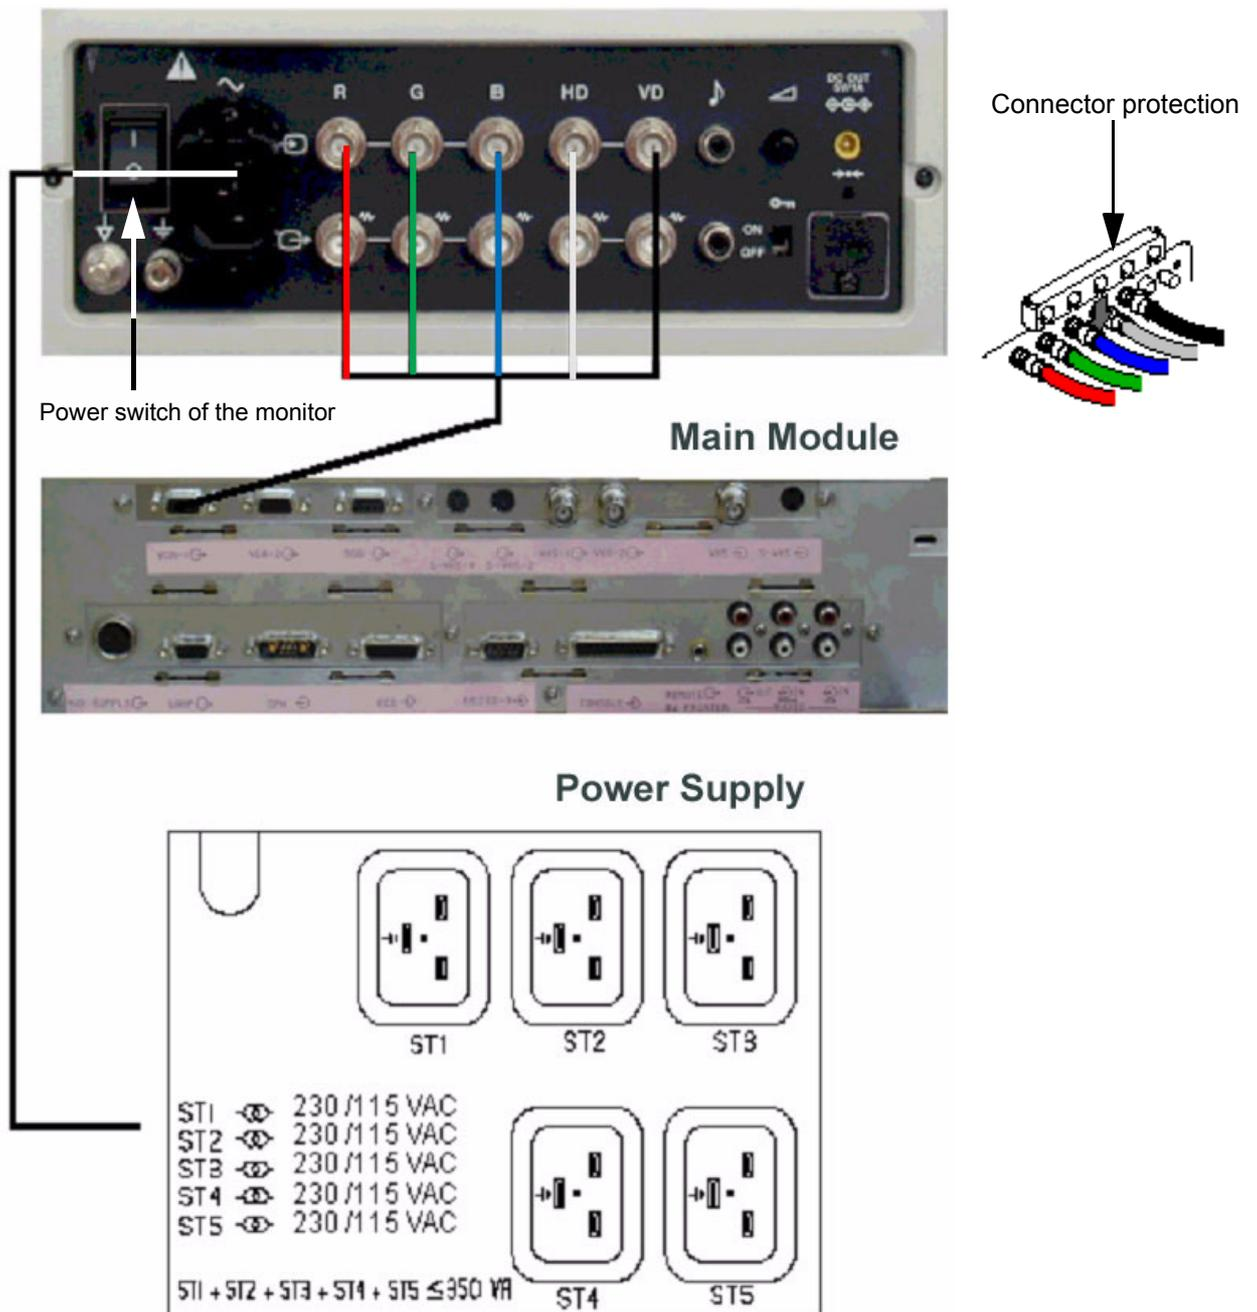

Figure 3-8 Monitor Connection Scheme
- 1.) Connect all the Monitor cables a shown in Figure 3-8.